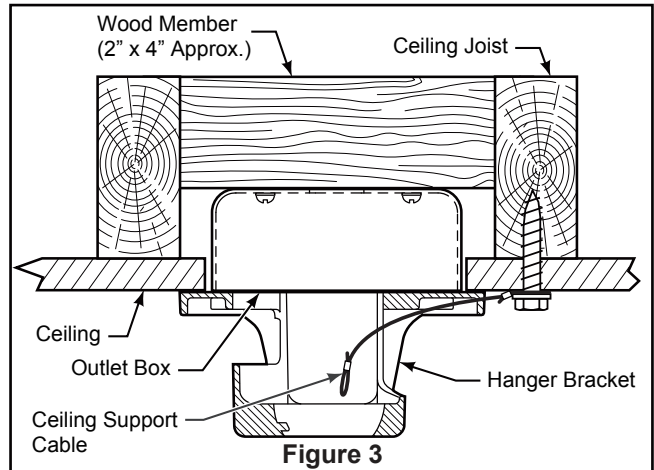

Figure 3
NOTE: Ceiling support cable cannot be secured to outlet box only, it must be directly secured to ceiling joist or structural member using the 3/8" x 2" lag bolt and flat washer. (Figure 3)
2. Slide the receiver into the hanger bracket before wiring as shown in figure 3.